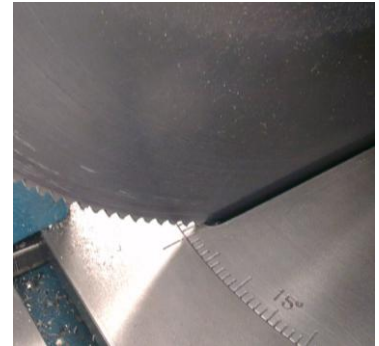

Figure 10. Saw Homing to Base
- ii) Upon power-up the saw needs to be calibrated. Immediately upon power-up pushing the HOME / RESET button will calibrate the saw. The saw will not respond to any other buttons until it is calibrated. The saw calibrates by seeking both forward and back. The saw will first seek back, then forward, and **MUST** home forward against its base, Figure 10. Ensure there are no bars placed across the cutting area. Once the saw touches the base it will go to the home position, briefly run the blade and wait for the next command.